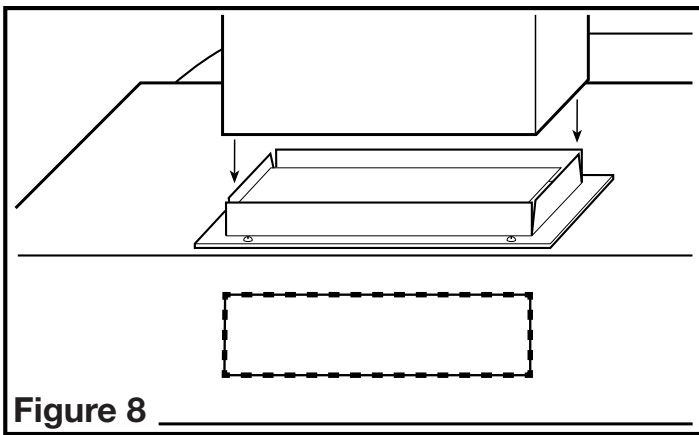

Figure 8
1. Connect the ducting to the hood's duct collar and damper. Ensure duct joints and exterior penetrations are sealed with caulk or other similar material to create an air-tight path to minimize building heat loss or gain and to reduce the potential for condensation. Place/wrap insulation around duct and/or fan in order to minimize possible condensation buildup within the duct, as well as building heat loss or gain (**Figure 8**).